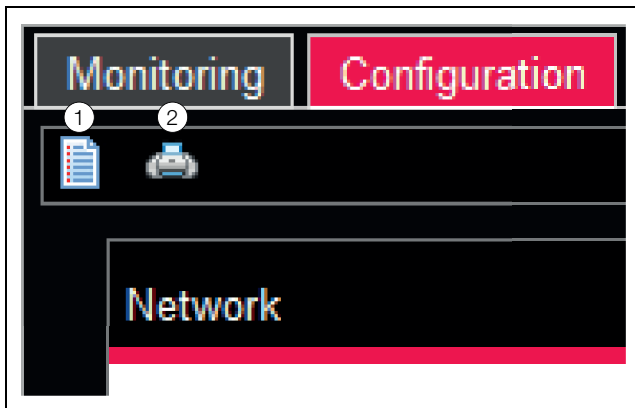

Fig. 32: Summary of the current settings
If the "Processing Unit" complete system is selected, the two buttons in the lower area of the **Configuration** tab can be used to display (left-hand button; fig. 32, item 1) or print (right-hand button; fig. 32, item 2) a summary of the current settings.